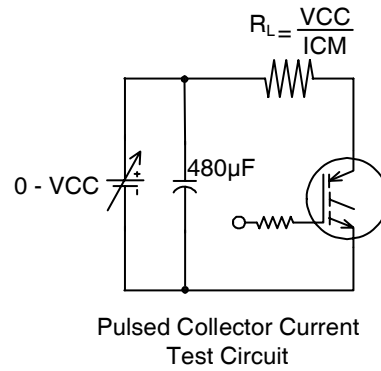

Fig. 13b - Pulsed Collector Current Test Circuit
① Repetitive rating; $V_{GE} = 20V$, pulse width limited by max. junction temperature. (See fig. 13b)